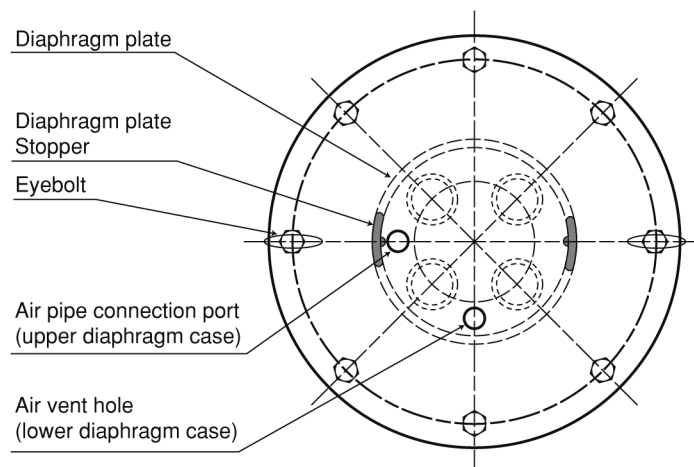

Figure 4-10 Direct Action Models Model PSA1D Actuator
- (1) Secure the diaphragm case (bottom) with the four bolts to the yoke. At the same time, set the air vent hole as in Figure 4-10. For model PSA1D actuator, secure the spring plate to the diaphragm case and yoke.
- (2) Fasten the spring place and install the springs onto the spring plate (see Figure 4-10).
- (3) Insert the actuator rod (with diaphragm connected) into the bushing. Be careful to prevent the bushing's inside surface or dust seal form being damaged by the threaded section of the rod. If possible, cover the threaded section with adhesive tape.
- (4) Rotate the actuator rod, locating the diaphragm plate stopper as shown in Figure 4-10.
- (5) Place the top diaphragm case and secure it with the pair of eyebolts.
Note: Set the air pipe connection port to the location shown in Figure 4-10. Tighten the pair of eyebolts uniformly and alternately. The initial setting of the springs is completed by tightening these eyebolts.